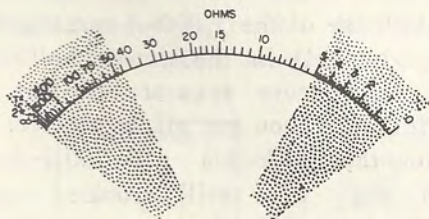

Fig. 8-10
3. For the most accurate readings, use the ohmmeter range that gives you a reading in the center path of the meter scale, as shown in Fig. 8-10. When measuring very-low or very-high resistance values, it is not